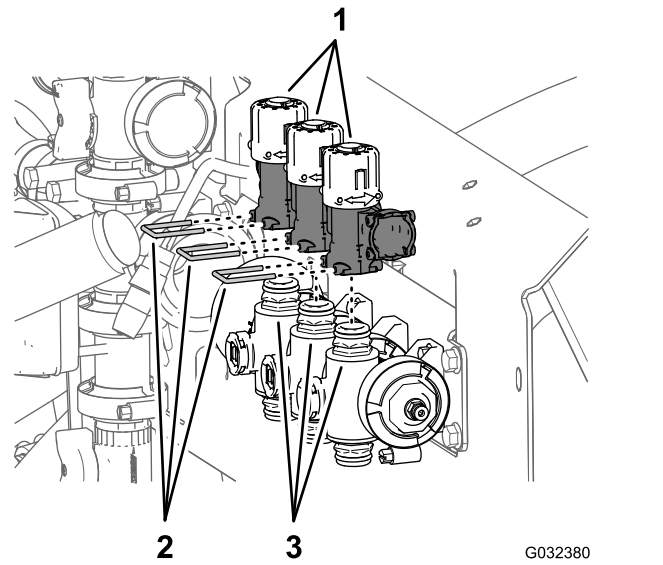

Figure 57
1. Remove the 3 retainers that secure the 3 bypass valves to the 3 manifold valves (Figure 57).
2. Lift the 3 bypass valves from the 3 quick couplers of the manifold valves (Figure 57).